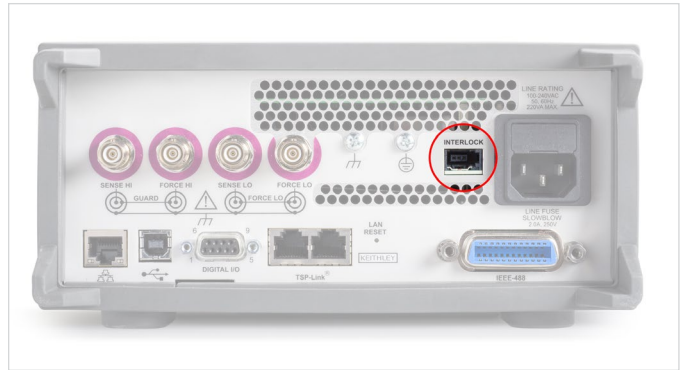

Figure 8: Location of safety interlock connection on rear panel of 2470 SMU.
- Use the safety interlock provided on the rear panel of the 2470 SMU as shown in **Figure 8**. The 2470 is fully interlocked so that the high voltage output is turned off if the interlock is not engaged. The interlock circuit of the SMU should be connected to a normally-open switch that closes only when the user access point in the system is closed to ensure that operators cannot meet a high voltage connection to the DUT. For example, opening the lid of the test fixture should open the switch/relay that disengages the interlock of the 2470 SMU.